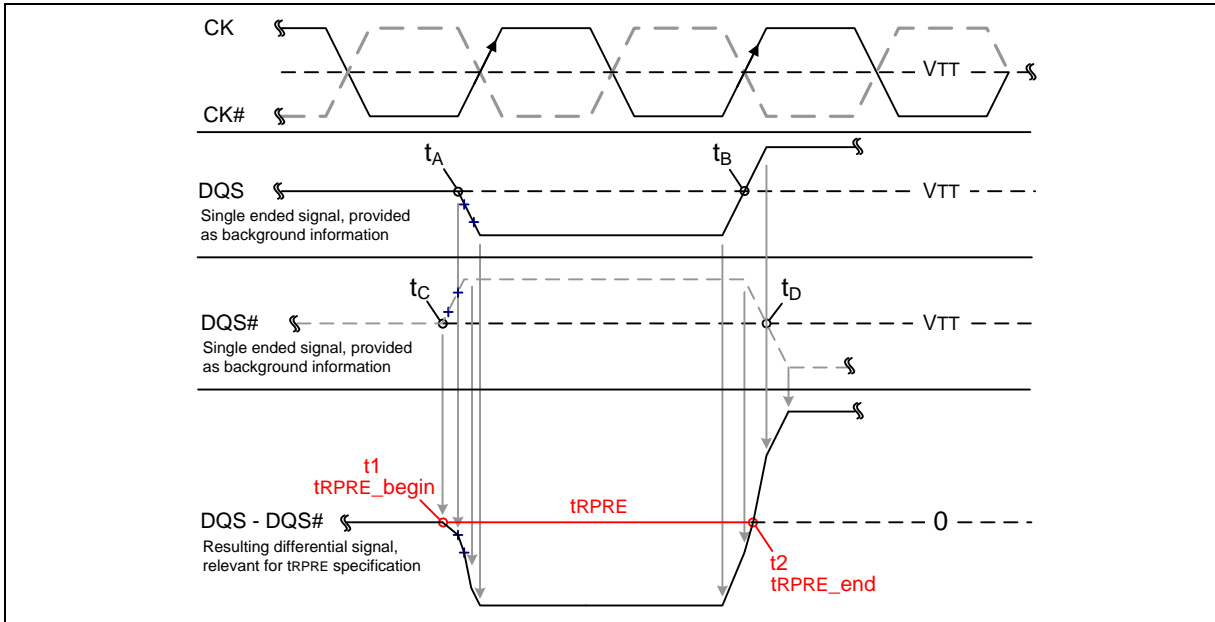

**Figure 26 – tLZ and tHZ method for calculating transitions and endpoints**
$t_{LZ}(DQS)$ ,  $t_{HZ}(DQS)$  for preamble/postamble (see section 8.13.2.3 and Figure 26).
**8.13.2.3 tLZ(DQS), tLZ(DQ), tHZ(DQS), tHZ(DQ) Calculation**
tHZ and tLZ transitions occur in the same time window as valid data transitions. These parameters are referenced to a specific voltage level that specifies when the device output is no longer driving tHZ(DQS) and tHZ(DQ), or begins driving tLZ(DQS), tLZ(DQ). Figure 26 shows a method to calculate the point when the device is no longer driving tHZ(DQS) and tHZ(DQ), or begins driving tLZ(DQS), tLZ(DQ), by measuring the signal at two different voltages. The actual voltage measurement points are not critical as long as the calculation is consistent. The parameters tLZ(DQS), tLZ(DQ), tHZ(DQS), and tHZ(DQ) are defined as singled ended.